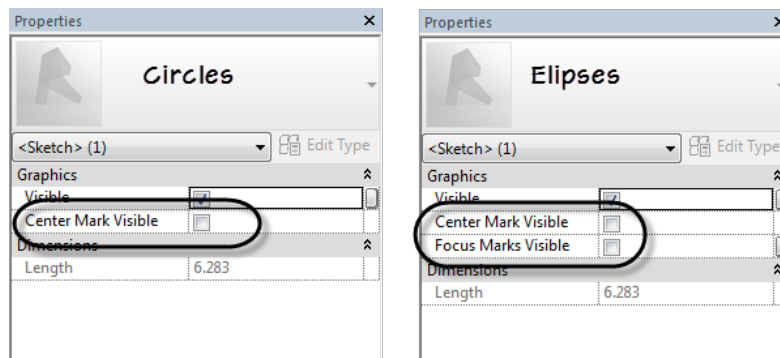

Figure 10—Enable the Center Mark or Focus Marks for Circles and Ellipses on the Properties palette
For curved objects like circles and ellipses you can display the center mark. This can be helpful to ensure that the element flexes in the way you expect and intend. Any curved object has this setting including arcs. For ellipses, you can also display the foci. To display either, look for the checkbox on the Properties palette (see Figure 10).
6. Select the circle onscreen. On the Properties palette, check the Center Mark Visible checkbox (shown above in Figure 10).
19. Select the ellipse onscreen. On the Properties palette, check the Center Mark Visible checkbox (shown above in Figure 10).